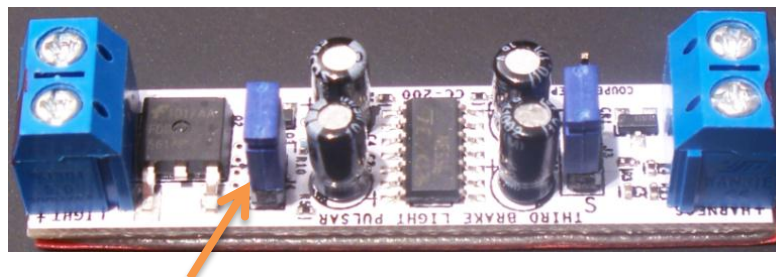

Figure 1: Location of SmartPulse™ Jumper J4
**SmartPulse™ Setting (Figure 1):** to disable the SmartPulse™ function, remove the jumper from "**J4**". With this jumper removed, the Pulsar will pulse the brake light every time the brakes are pressed.